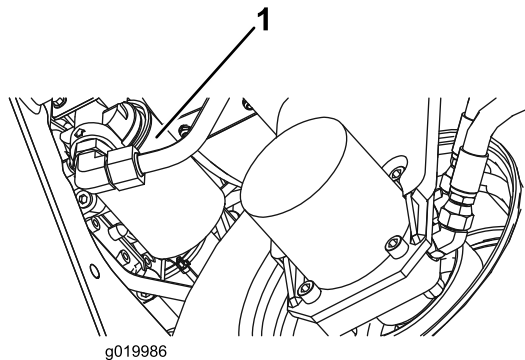

Figure 78
2. Clean around the filter mounting area. Place a drain pan under the filter (Figure 78) and remove the filter.